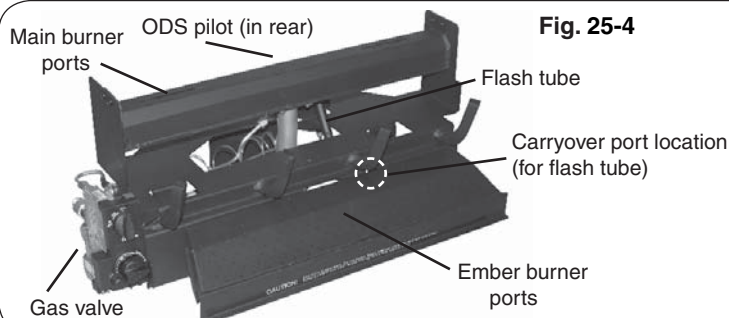

Fig. 25-4
2. Dust the grate, the assembly, and the burners. Using a compressed air duster (commonly available at computer, electronic, or office supply stores); blow through the flash tube, its corresponding carry over port, and all of the burner ports. See Fig. 25-4 on the previous page for locations.